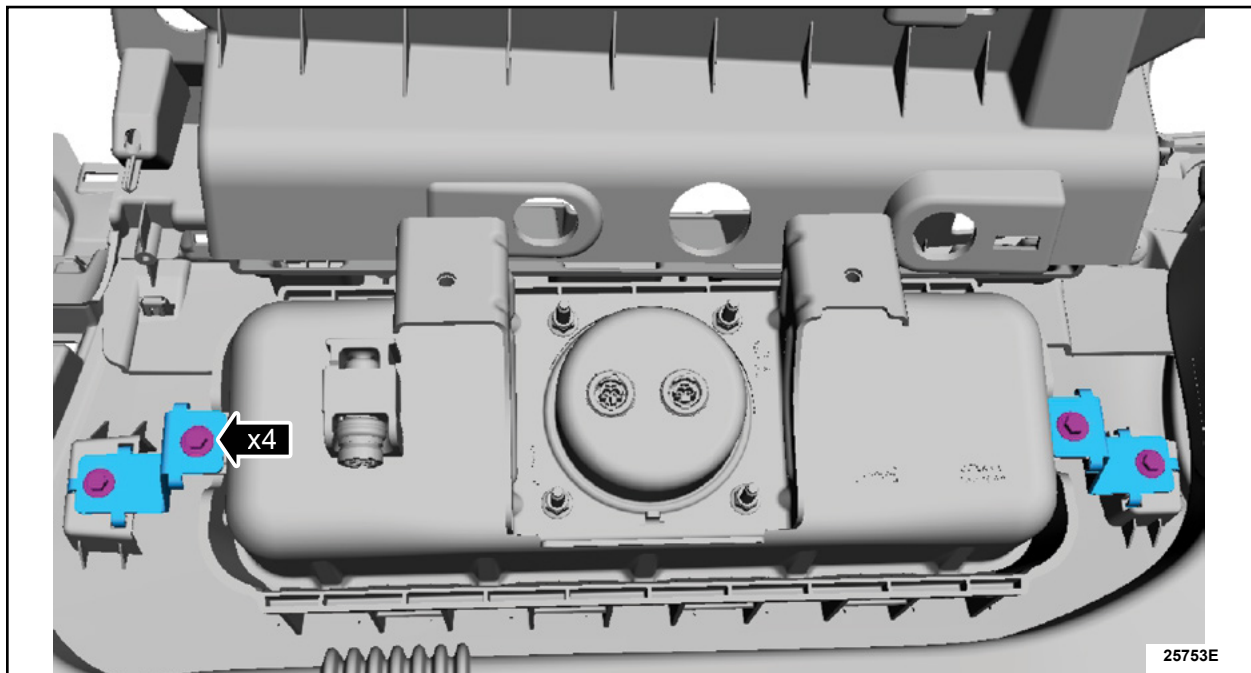

FIGURE 5
7. Remove the screws and the passenger airbag anti-rattle brackets. See Figure 5.